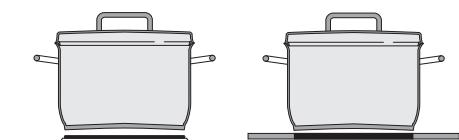

fig. 12
- The base of the cold pan should be somewhat concave, as the pan will expand on heating and will then make proper contact with the zone surface, thereby allowing an optimum transfer of heat (fig. 12).